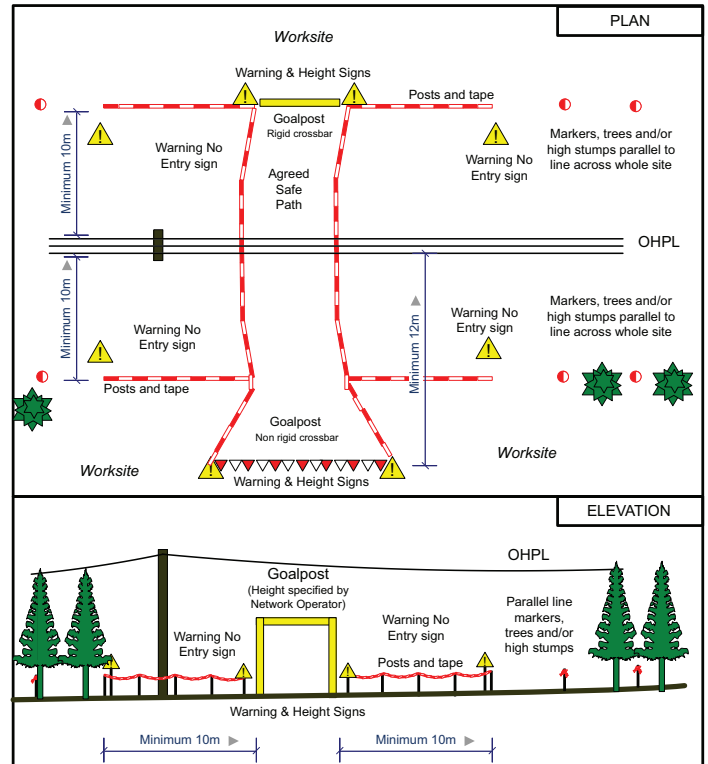

Figure 1: Site layout
27. Within the worksite, the FWM will clearly identify the safe clearance for driving alongside OHPLs and underground cables by providing suitable barriers. In many cases, marked trees or high stumps will form the basis of a suitable barrier, as long as there is no opening which would allow access for vehicles. The absolute safe minimum driving distance from the barriers to the OHPL is 10 m. The Network Operator may advise distances greater than 10 m depending on the voltage of the line and the nature of the terrain. See Figure 1.